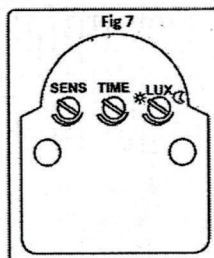

Fig 7
11. LUX Adjusting Dial (Shown in Fig 7)
12. SENS Adjusting Dial (Shown in Fig 7)
13. Time Adjusting Dial (Shown in Fig 7)
How to use Control Dials (See Fig 7)